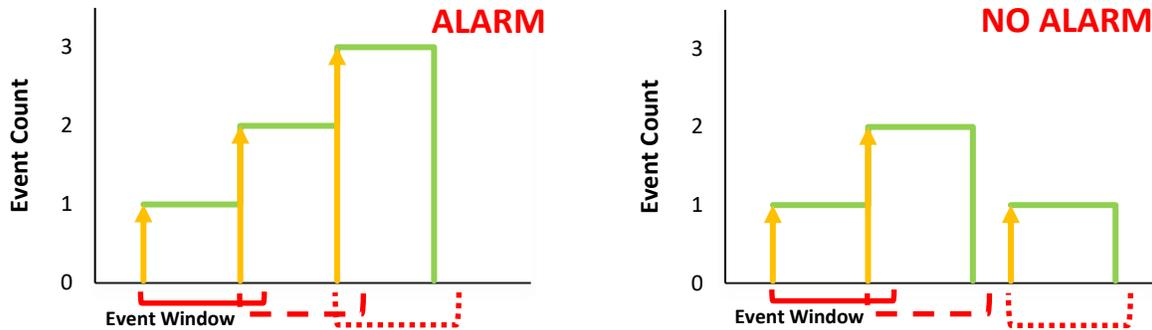

Figure 5 – Event Window interacting with Event Count
**Event Window** is the maximum amount of time that can exist between events before the **Event Count** resets. When an event occurs, the **Event Window** timer is initialized. If another event occurs within the timer, the **Event Count** is incremented by one and the timer reinitiates. If an event does not occur within the window, the **Event Count** is reset to zero. If the number of events reaches **Event Count**, an alarm is generated. Figure 5 displays the interaction between **Event Window** and **Event Count** for the generation of alarms.